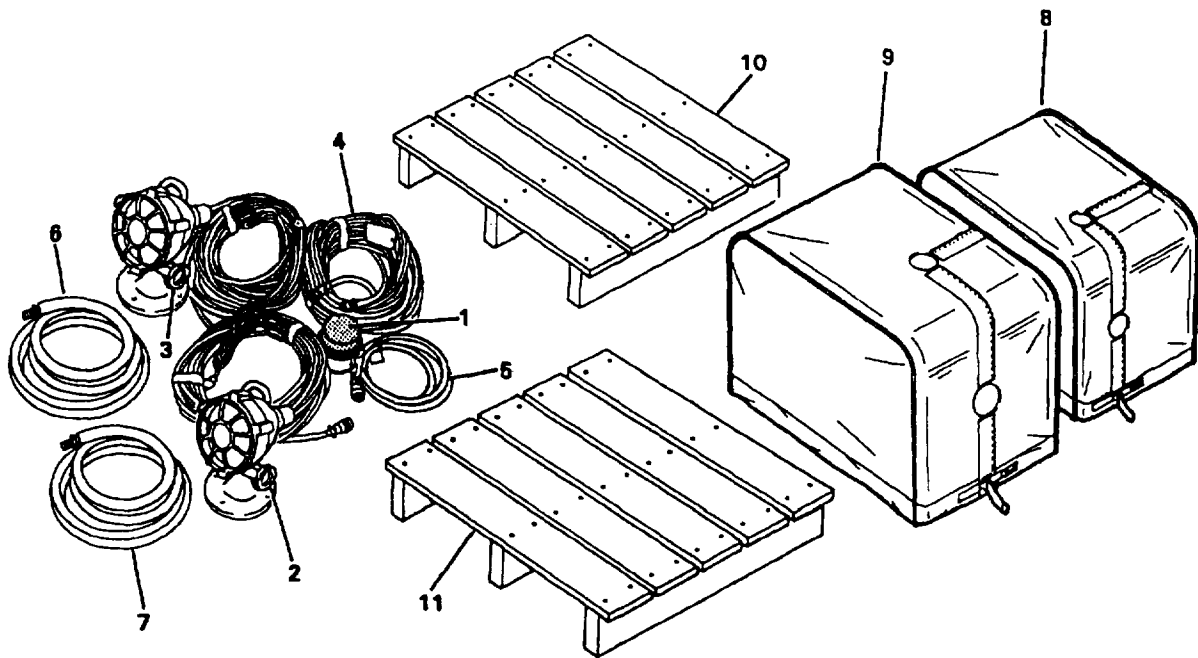

Figure 1-6. Winter Kit Components
- (1) *Distribution Pump* (1). Draws potable water from storage tanks and pressurizes it.
- (2) *Distribution Hoses and Dispensing Nozzles* (2). The potable water is dispensed through hoses and manually controlled nozzles.
- (3) *Product Shut-Off Valve* (3). This valve is normally open and is closed when cleaning the RO elements.
- (4) *Storage Tanks* (4). These are 3000 gallon (each) collapsible potable water storage tanks (see TM 5-5430-225-12).
- d. *Winter Kit* (Figure 1-6). Contains items required to prevent freezing of water during cold weather operation. Items 1 thru 6 are stored in a winter kit storage box when not in use. The covers (8 and 9) and skids (10 and 11) are stored on the table to the left of the main control panel under the spare cartridge filter elements